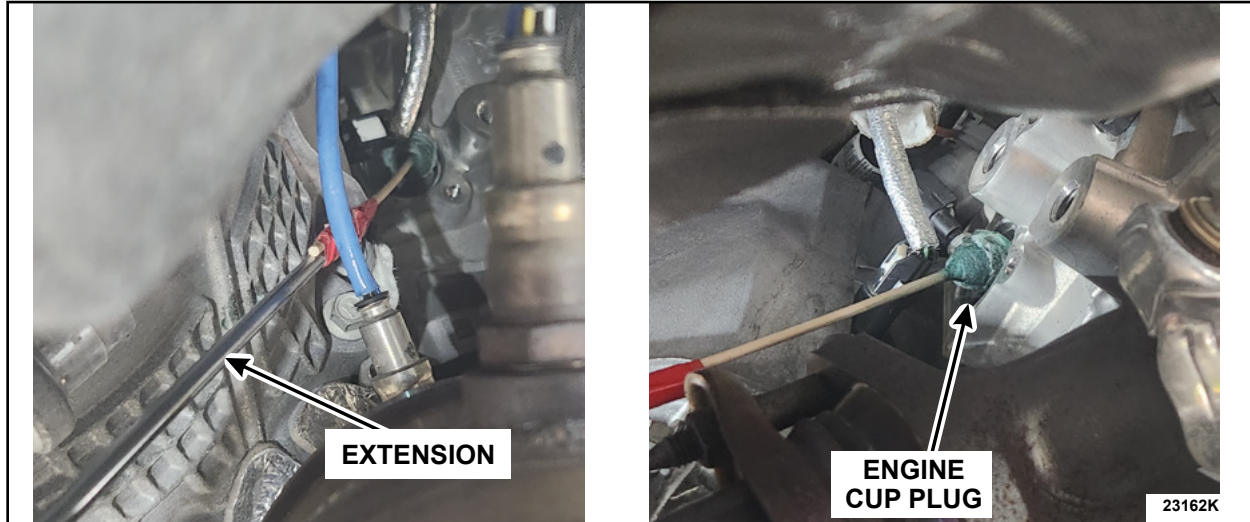

FIGURE 6
12. Using the fully saturated swab, apply a generous amount of Loctite 290 around the full perimeter of the engine cup plug so that it wicks around the sealing surface completely. See Figure 6.
NOTE: It may be necessary to attach the swab to an extension to reach the cup plug. See Figure 6.